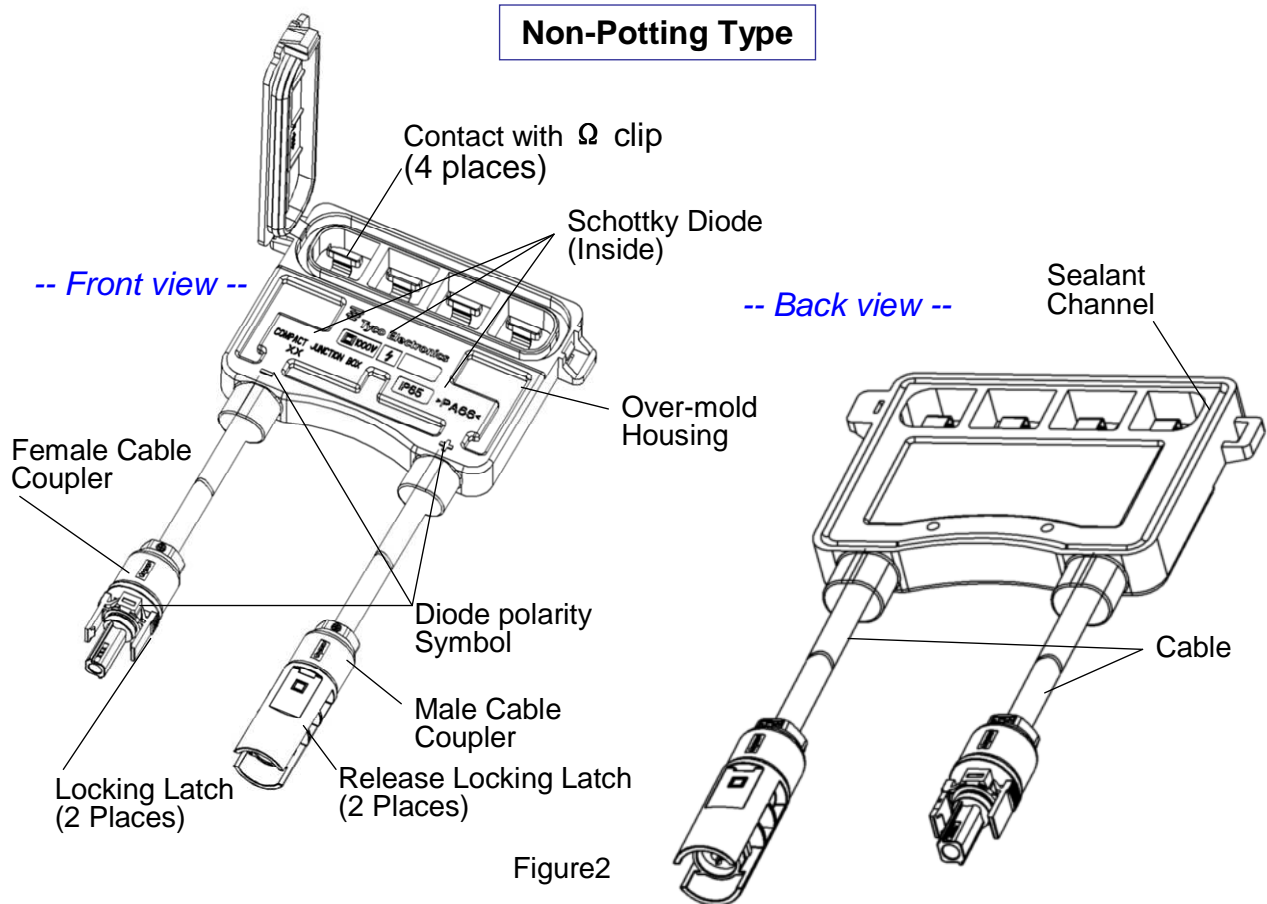

Figure2
- ◆ Non-potting Type with Ω clip (Figure 2)